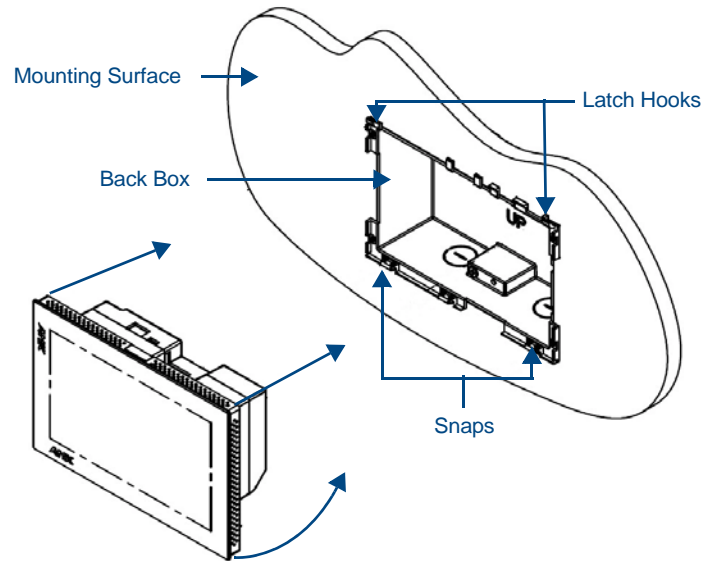

FIG. 18 Installing the MXD-700
- 12.** Latch the panel onto the top hooks on the back box and push it down (Landscape) onto the bottom snaps or on the left side and push it to the right (Portrait) (FIG. 18). Press gently but firmly on the ends until the snaps “click” to lock it down.